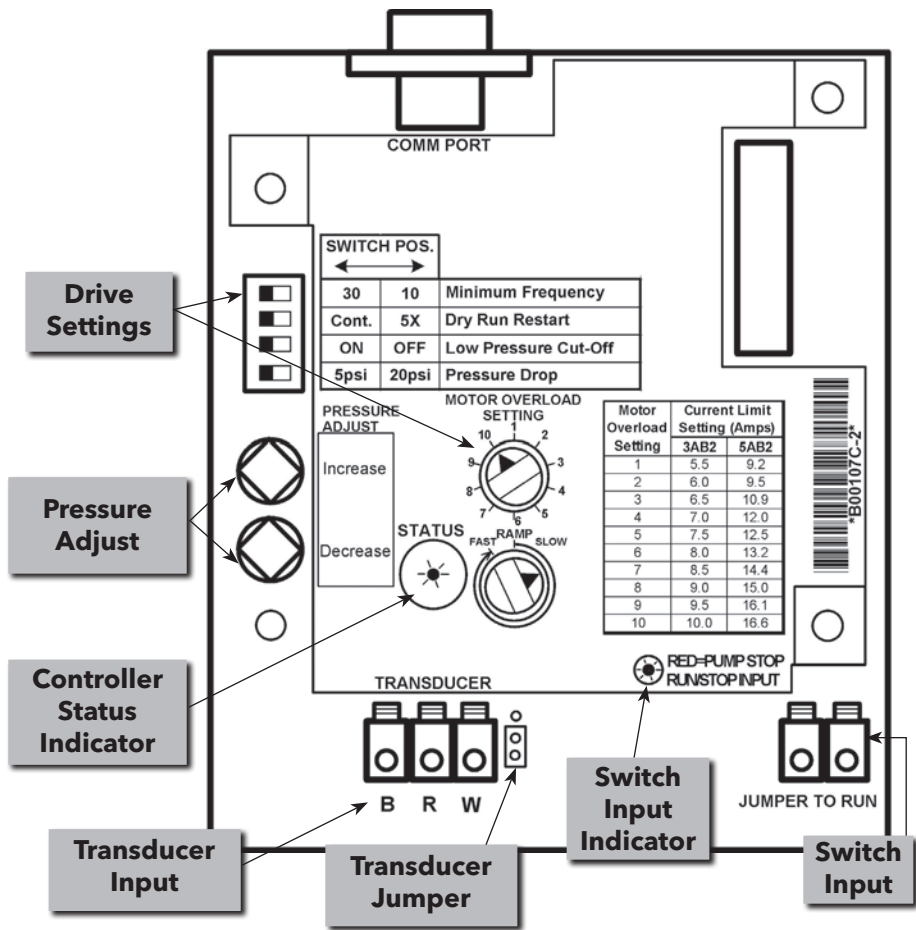

Figure 3: UIB (User Interface Board)
The Minimum Frequency Switch (figure 3) is used to set the minimum speed of the motor. This allows the controller to fit a wide range of applications. Select a Minimum Frequency of 10 Hz if the pressure at the pump's suction is within 20 PSI of the desired pressure setting. Select a Minimum Frequency of 30 Hz if the pressure at the pump's suction is more than 20 PSI below the desired pressure setting, such as when pumping from a tank or if drawing a suction lift.
The position of the Ramp Setting Switch (figure 3) determines how fast the controller can change the speed of the motor. A Slow Ramp Setting allows the controller to work better in applications where the average demand for water is low (less than 3 GPM or about 1 faucet). A Fast Ramp Setting allows the controller to work better in applications where demand for water is high because the motor is allowed to change speed faster.
- Use Figures 3 and 4 to determine which controller and setting to use. Note that some 200V motors require upsizing to the next larger controller.